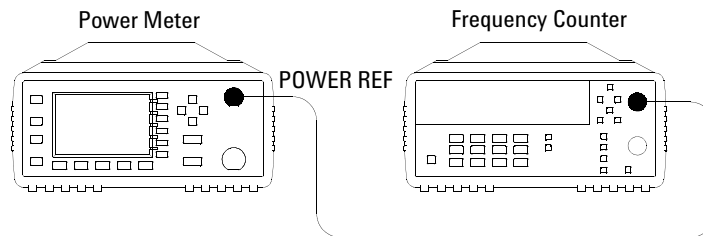

Figure 3-1 Adjustment Setup
- 2 Connect the equipment as shown in Figure 3-1. Set up the counter to measure frequency.